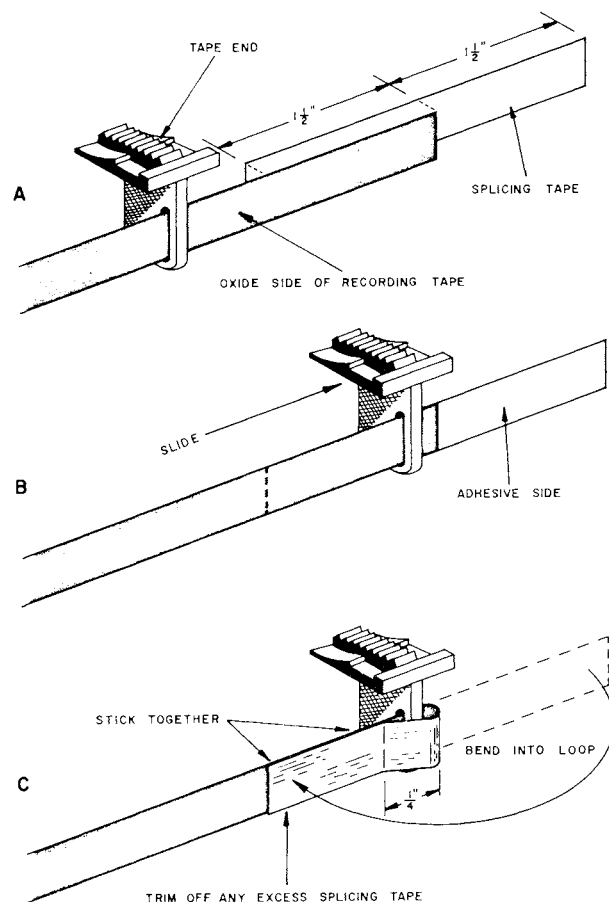

FIGURE 32 METHOD FOR ATTACHING
- Slip the Recording Tape through the Tape End as shown in fig. 32-A. Make sure that the oxide (dull) side of the Recording Tape faces as shown.
- Stick a 3" length of 1/4" wide Splicing Tape to the Recording Tape as shown (fig. 32-A). Use Splicing Tape only, not ordinary cellophane tape.
- Slide the Tape End as shown in fig. 32-B.
- Bend the Splicing Tape around and stick it to the oxide side of the Recording Tape as in fig. 32-C. Leave a 1/4" loop in the Recording Tape.